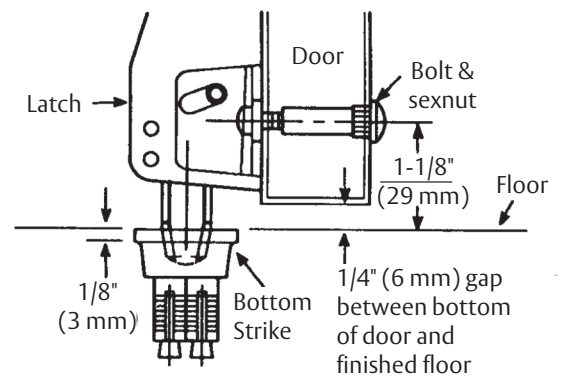

Figure 13
2. Use anchors or equivalent to secure the flat head screws into floor. (Figure 13)